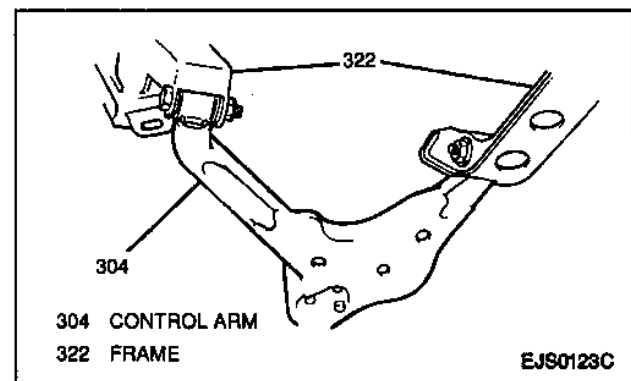

Figure 12—Control Arm
10. Front through bolt and nut from control arm (Figure 12).
11. Rear through bolt and nut from control arm and remove control arm from vehicle chassis (Figure 12).